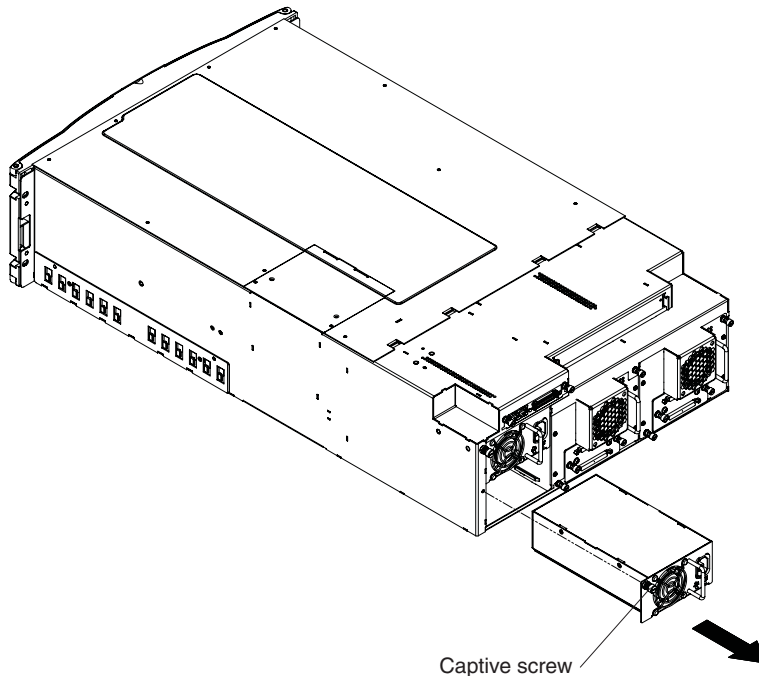

Figure 20. Removing a power supply
4. Pull the power supply out of the library chassis as shown in Figure 20 on page 46.